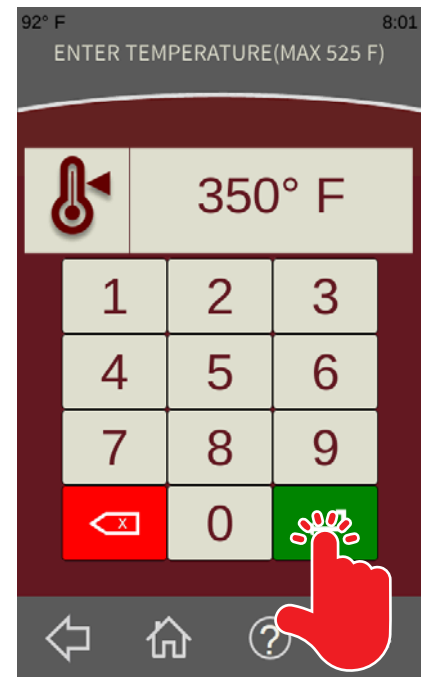

Fig. 6
2. From the **Enter Temperature Screen** (Fig 6), enter the desired temperature on the keypad and touch the green Enter button (Fig. 6). The **Enter Time Screen** should be displayed.